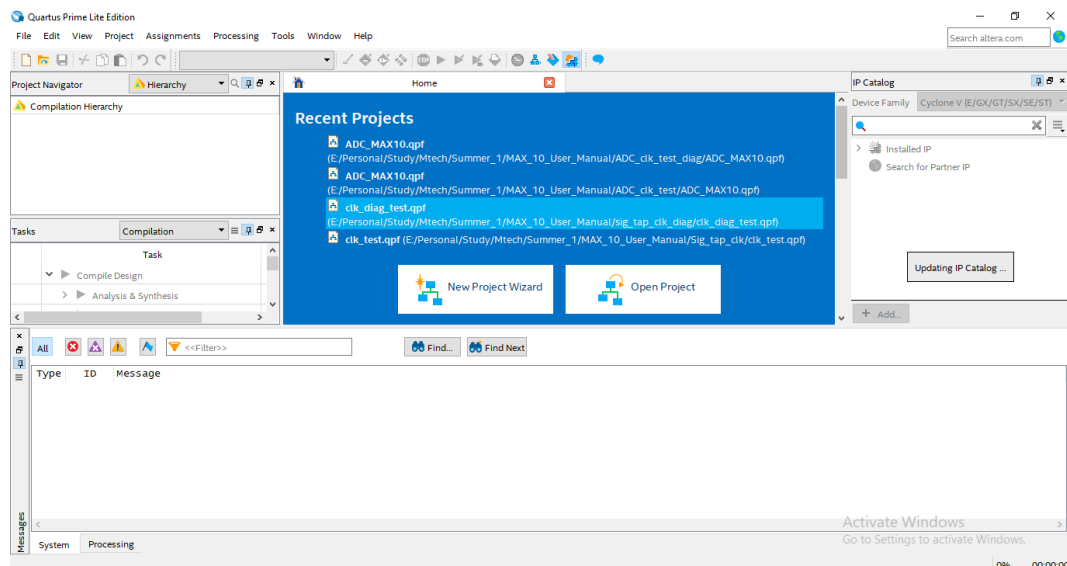

Figure 3: Quartus home page
1. Open Quartus II IDE. A pop-up will appear as shown in figure 3 asking you to either create a new project or open an existing one. Click on New Project Wizard. Alternatively, you may click on File → New Project Wizard.
6. Using the OLED (or any I2C device) Connector: Xen10 has a 4-pin on-board I2C (named as OLED) connector that can be used to interface a 4-pin OLED module supporting I2c protocol or any other I2C device. Figure 3 shows the numbering convention. Table 5 shows the pin mapping for OLED.